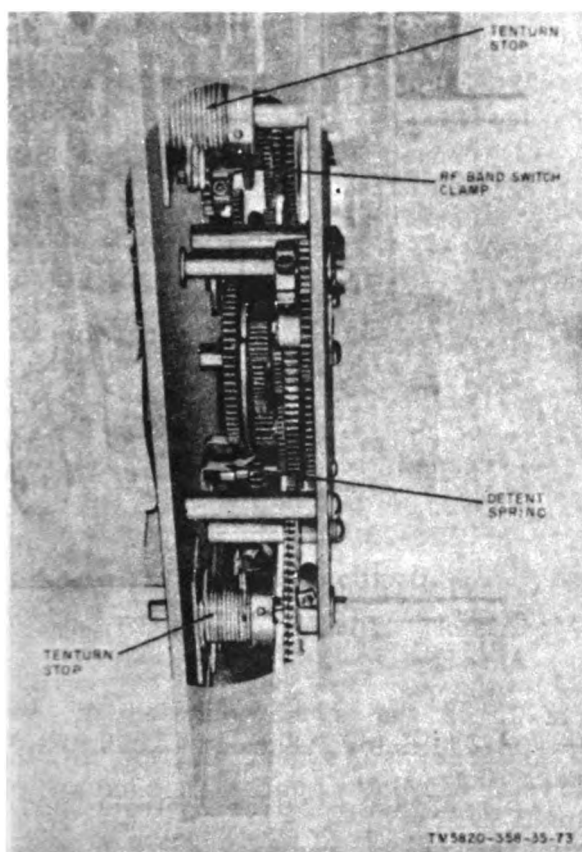

Figure 69. Location of rf band switch shaft clamp, detent spring, and ten-turn stops.
a. Ten-Turn Stops. Check the 10-turn stops (fig. 69) by rotating the MEGACYCLE CHANGE and KILOCYCLE CHANGE shafts fully counterclockwise. The first two digits on the frequency indicator should indicate halfway between 99 and 00 mc (off the detent position). The next three digits should indicate between -963 and -972 kc.
(4) Connect the TS-352(*)/U between pin 6 of XV207 and pin D of J208. The indication should be approximately 56,000 ohms.
(5) Turn the MEGACYCLE CHANGE control to 08. The TS-352(*)/U should indicate an infinite reading.
(6) If the indications are *not* as in (4) and (5) above, continue with procedures (7), (8), and (9).
(7) Disconnect the TS-352(*)/U and reinsert V207.
(8) Remove the front panel (para 58) and the rf subchassis (para 59).
(9) Loosen the rf band switch clamp (fig. 69). Turn the band switch shaft until the rotors are centered on the contacts which provide the indications required in procedures (4) and (5) above. Tighten the rf band switch clamp.